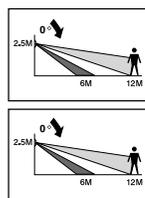

fig 10
- You can further tailor the detection area to suit your needs by using the slot-in lens screening panels provided (see fig 10). To discover how much screening is needed, first obscure the PIR unit's lens with masking tape, progressively covering more of the lens until the required detection area is achieved. Then simply cut a piece of the plastic screening to cover the same area as the tape, remove the tape - being sure to remove any adhesive residue left behind - and slot the screening into the PIR Detector (see fig 10).